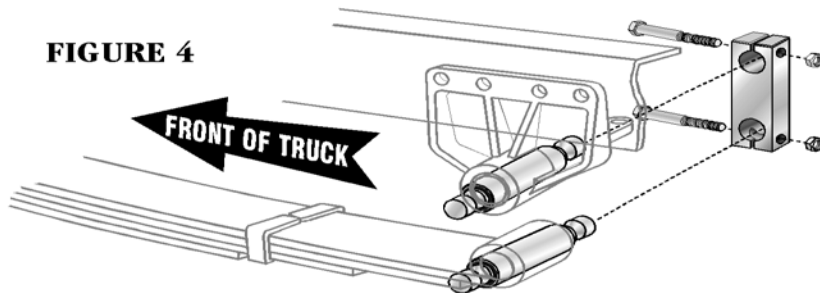

FIGURE 4
3. Install shackle side bar on ends of pins protruding from the frame hanger bracket and the leaf spring eye (see Figure 4).
3. Lubricate threads of Hex Head Cap Screws with a light weight oil. Install Hex Head Cap Screws and Hex Head Stover Locking Nuts (see Figure 4).
Do not tighten Hex Head Cap Screws (Item 5) and Hex Head Stover Locking Nuts (Item 7) at this time (see Figure 4)